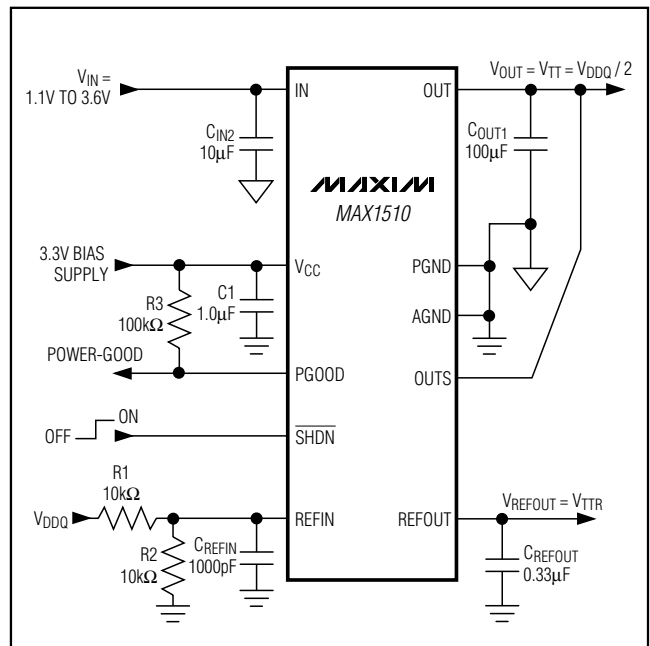

Figure 1. Standard Application Circuit
($V_{IN} = 1.8\text{V}$, $V_{CC} = 3.3\text{V}$, $V_{REFIN} = V_{OUTS} = 1.25\text{V}$, $\overline{\text{SHDN}} = V_{CC}$, circuit of Figure 1, $T_A = -40^\circ\text{C}$ to $+85^\circ\text{C}$, unless otherwise noted. Typical values are at $T_A = +25^\circ\text{C}$.) (Note 1)
($V_{IN} = 1.8V$, $V_{CC} = 3.3V$, $V_{REFIN} = V_{OUTS} = 1.25V$, $\overline{SHDN} = V_{CC}$, circuit of Figure 1, $T_A = -40^{\circ}C$ to $+85^{\circ}C$, unless otherwise noted. Typical values are at $T_A = +25^{\circ}C$.) (Note 1)
(Circuit of Figure 1. $T_A = +25^\circ\text{C}$, unless otherwise noted.)
The MAX1510 is a low-voltage, low-dropout DDR termination linear regulator with an external bias supply input and a buffered reference output (see Figures 1 and 2). V_{CC} is powered by a 2.7V to 3.6V supply that is commonly available in laptop and desktop computers. The 3.3V bias supply drives the gate of the internal pass transistor, while a lower voltage input at the drain of the transistor (IN) is regulated to provide V_{OUT}. By using separate bias and power inputs, the MAX1510 can drive an n-channel high-side MOSFET and use a lower input voltage to provide better efficiency.
The MAX1510 regulates OUTS to the voltage set at REFIN, making the MAX1510 ideal for memory applications where the termination supply must track the supply voltage. Typically, REFIN is set by an external resistive voltage-divider connected to the memory supply (V_{DDQ}) as shown in Figure 1.